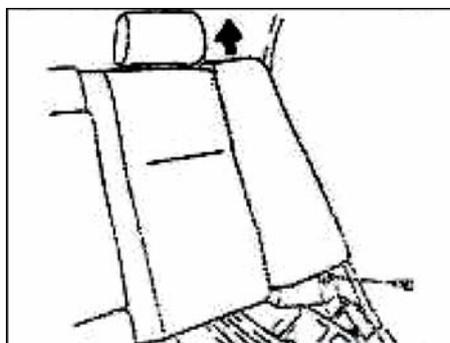

Fig. 7-13
- ① Open the front part of the rear seat back cover.
- ② Incline the seat back assembly.
- ③ Remove the two bolts and the seat back.
- (5) Remove the left rear seat side back assembly, bolts and the seat back assembly, as shown in Fig. 7-13.
- ① Remove the bottom fixing bolts on the left side back of the rear seat.
- ② Pull out the left side back and the Fig. 7-13 may be referred.
- (6) Remove the rear seat right side back assembly, bolts and side seat back.
- ① Remove the bottom fixing bolts on the rear seat right side back.
- ② Pull out the right side back.
- (7) Remove the left hinge of the rear seat back, bolts and hinge.
- (8) Remove the right hinge of the rear seat back, bolts and hinge.